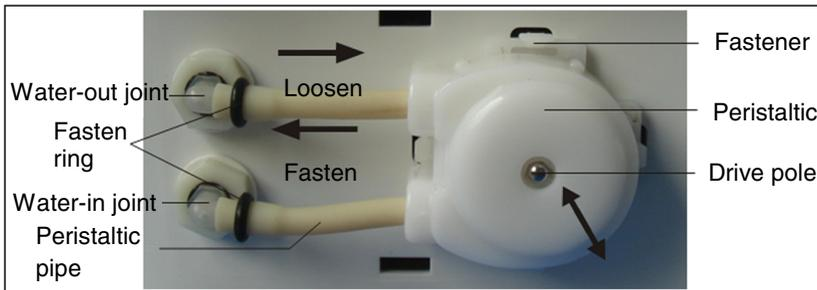

Fig. 12
- 3 Pull the two fasten rings out to the right, then pull the peristaltic pipe out to the right. (See Figure 12)
- 4 Pull the peristaltic out from the drive pole, and install the new peristaltic back to the same position. (See Figure 12)
- 5 Install the fasten rings onto the ends of pipes then insert the pipes into water-in and water-out joints. Push the fasten rings to mid of water-in and water-out joints. (See Figure 12)